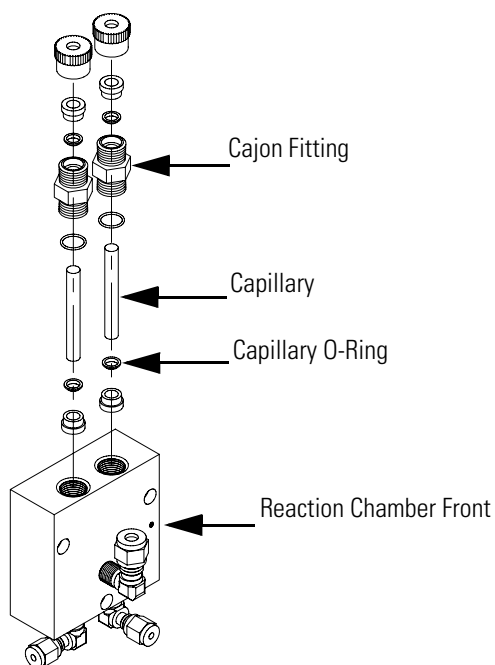

Figure 5-1. Inspecting and Replacing the Capillaries
3. Locate the capillaries. See Figure 5-1 and Figure 7-2.